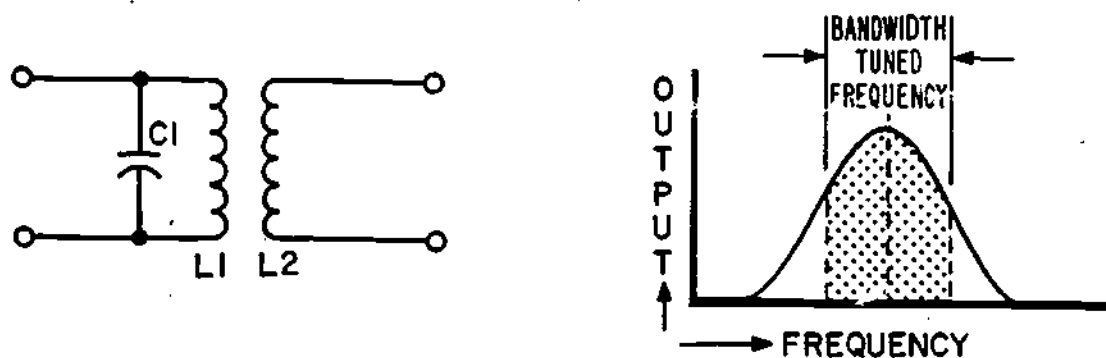
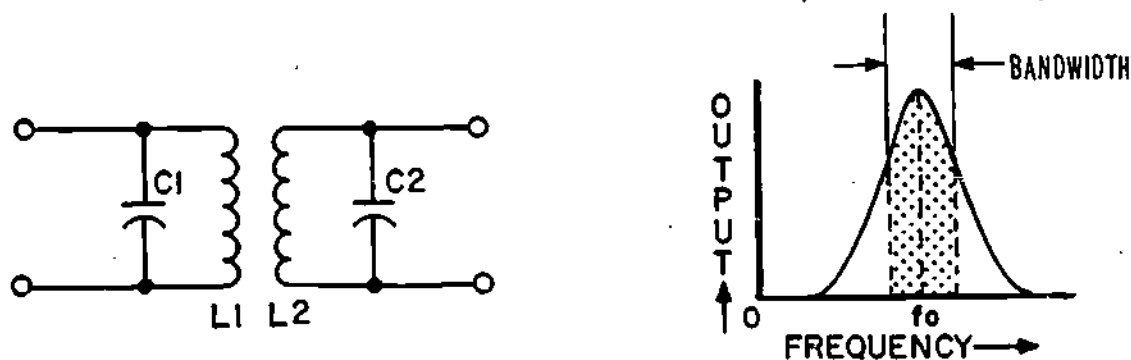

Figure 2
Figure 3
29. Connect the equipment as shown in Figure 3.
An actual IF amplifier with tuned-primary transformer coupling has a frequency response curve which more closely resembles Figure 2.
There are ways to make the frequency response curve of an IF amplifier resemble the ideal curve and thus improve amplifier operation. One method is to tune all circuits in the signal path to the same frequency, or synchronous tune. A tuned circuit may be added to the secondary of the transformer coupling in Figure 2. If the two tuned tanks are synchronous tuned to the IF center frequency, the resulting frequency response curve is shown in Figure 3.